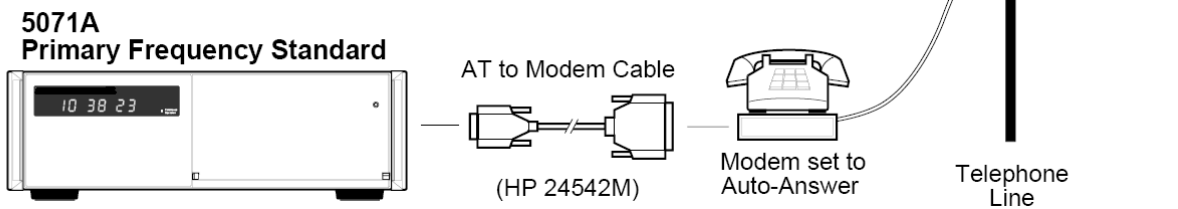

Figure 1-2. RS-232C Cabling Setups
- 1 Ensure that the correct hardware connections exist between the 5071A and your terminal, personal computer, or workstation for your remote operation needs as shown in Figure 1-2.